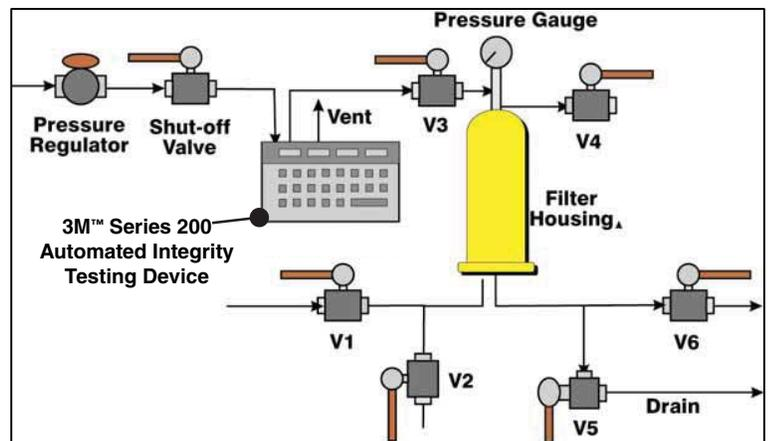

Figure 2 - Forward Flow Integrity Test (Automated Method)
## Procedure #2. Forward Flow Integrity Test (Automated Method - Figure 2)
- A. Configure the system as shown in Figure 2. Connect a pressure regulator to a sterile compressed air source (Do Not Use CO2) capable of delivering a minimum of 0.7 bar (10 psig) more than the required test pressure. FFIT test pressure for LifeASSURE PDA series filter is 2.8 bar (40 psig).